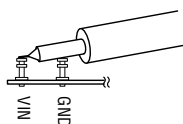

Figure 2. Measuring Input or Output Waveforms
**NOTE:** When measuring the input or output voltage waveforms, care must be taken to minimize the length of the oscilloscope probe ground lead. Measure the input or output voltage waveforms by connecting the probe tip directly across the PWM INPUT or G1 output and GND terminals as shown in Figure 2.